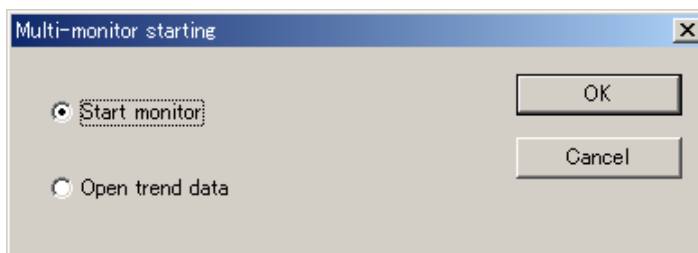
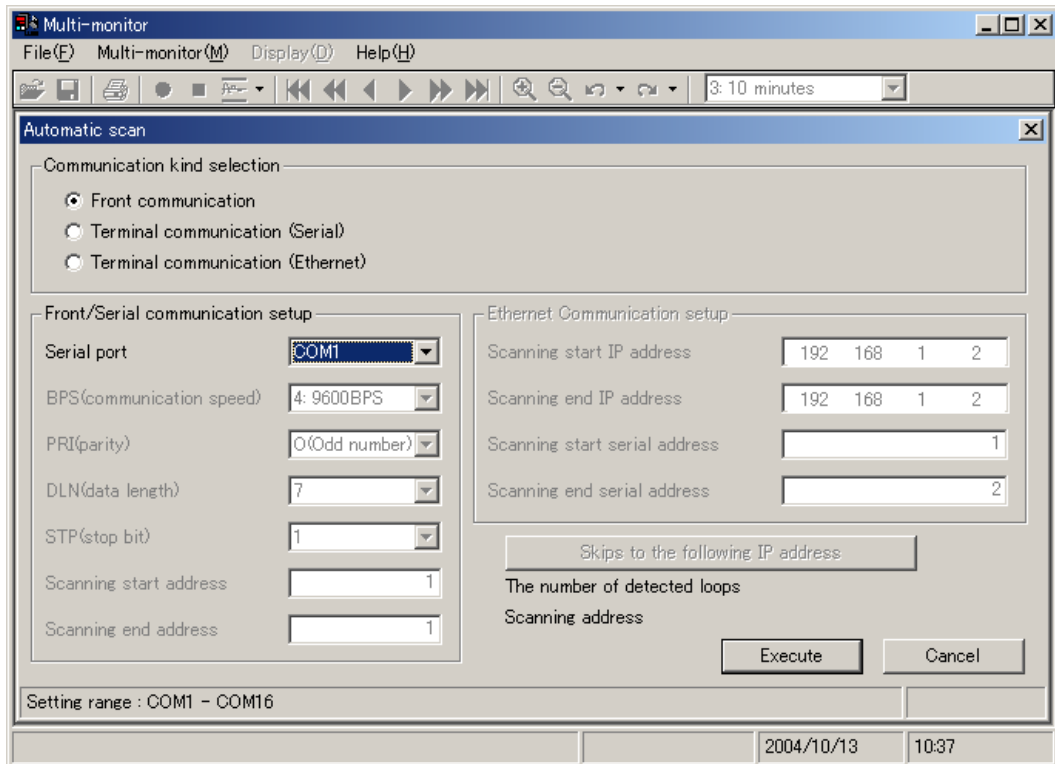

Figure 2.1.2 Multi-monitor Starting Dialog Box
Figure 4.1.1 Automatic Scan Dialog Box
- (3) Select **Multi-monitor Tool**.
- (4) Click **OK**.
- (5) The Multi-monitor Starting dialog box (Figure 2.1.2) appears.
LL100: From the menu bar, choose **Parameter setting**, then **Run Multi-monitor tool**. The Automatic Scan dialog box (Figure 4.1.1) appears.
LL200: From the menu bar, choose **Custom Computation**, then **Run Multi-monitor tool**. The Automatic Scan dialog box (Figure 4.1.1) appears.
After you choose **Start Monitor** in the Multi-monitor Starting dialog box (Figure 2.1.2), the Automatic Scan dialog box (Figure 4.1.1) appears.